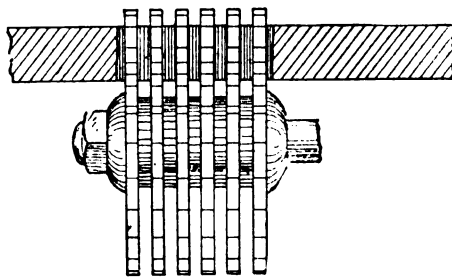
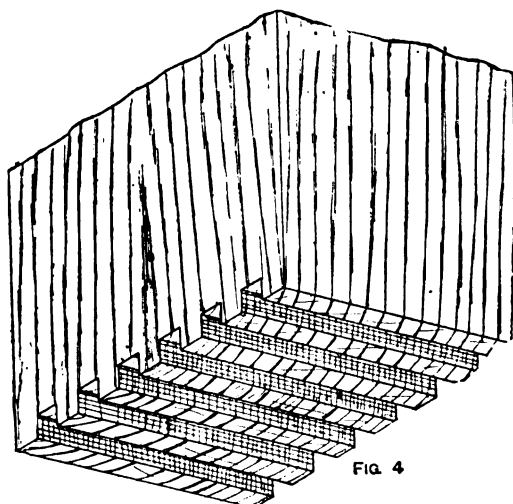

FIG. 3
FIG. 4
**Tinplate Nutmeg Grater.**—Fig. 1 is a general view of a tinplate nutmeg grater which is very useful in the kitchen; it is  $6\frac{1}{2}$  in. long by  $2\frac{1}{2}$  in. wide. Fig. 2 is the pattern for the back. The dotted line at the side shows the part to be turned over when fitting together. Fig. 3 is a pattern for the grater, which can be made by cutting a piece of tin  $3\frac{1}{2}$  in. wide by  $4\frac{1}{2}$  in. long, and marking two lines  $\frac{3}{8}$  in. from the sides, and two lines  $\frac{3}{8}$  in. from top and bottom. Then divide the horizontal lines into sixteen parts, and the vertical lines into thirty-two parts, and join. These will give the centre of holes as indicated. In punching the holes the tin should be laid on a piece of lead or soft wood, so that the burrs of the holes appear on the reverse side. It should then be bent to the shape shown by Fig. 4. The pattern for the nutmeg box should next be prepared, as shown by Fig. 5. The parts are folded on the dotted lines, so that E meets A, the parts overlapping being for the join; see Fig. 6. The parts F should be bent so as to be covered by the top of the projecting pieces in Fig. 2, and the parts G should be bent upward so as to form a slide for the door, Fig. 7. This is  $2\frac{1}{2}$  in. long and  $2\frac{1}{2}$  in. wide, and the
parts H overlapping are bent downwards so as to slide on the parts G (Fig. 5); the piece J is bent into a small cylinder to form a handle. Two pieces are knocked down, so that the burr on the inside prevents the door sliding off. The ornamental work in Fig. 1 is produced by punching from the inside. In fitting together the parts, Figs. 3 and 5, bent to shape, are put in the piece Fig. 2, so that the edges K of the grater (Fig. 3) and the parts F (Fig. 5) almost touch the dotted lines in Fig. 2. The projecting parts are then bent over and hammered tight. The lid slides on by means of the pieces G and H (Figs. 5 and 7).
Fig. 3). To do the grooving satisfactorily, a number of thicknesses of boards must be clamped together and then sawn off flush to the ends to the required length and grooved; or a better plan is to form the grooves in pieces of thick stuff (see Fig. 4), which can afterwards be cut into the thicknesses required.
**Design for Brass Stand.**—Fig. 1 shows an easily made brass stand. Good sizes for the stand are 14 in. by 14 in.; 18 in. by 10 in.; or 24 in. by 12 in. The top is of sheet brass, say No. 16 B.W.G. thick. It should be flattened by hammering on an anvil, which also stiffens it. Fig. 2 shows the vandyke edge ornamented with drilled holes. Cut the plate as shown in Fig. 3. Then turn it down on each side as at A (Fig. 4) by putting it between two flat bars in a vice and hammering it over. This top may be ornamented in various ways; as illustrated, the ornament is made by drilling holes, but saw-piercing may be adopted if further ornament is desirable. The feet are shown in section by Fig. 4. A brass tube  $\frac{1}{2}$  in. in diameter is cut to the length and screwed into the brass sockets at the top and centre, which must be turned and screwed to fit. The feet on which the stand rests are hollow with a solid top, in which the pipe screws. The straining brass under the tubes may be of  $\frac{1}{2}$  in. brass tube screwed at the ends and fixed through the brass socket with a ball knob outside. This arrangement secures the feet in
position and makes the stand firm. Any ornament may be introduced by screwing to the feet or top. The top is secured to the legs by screws as shown in Fig. 4.